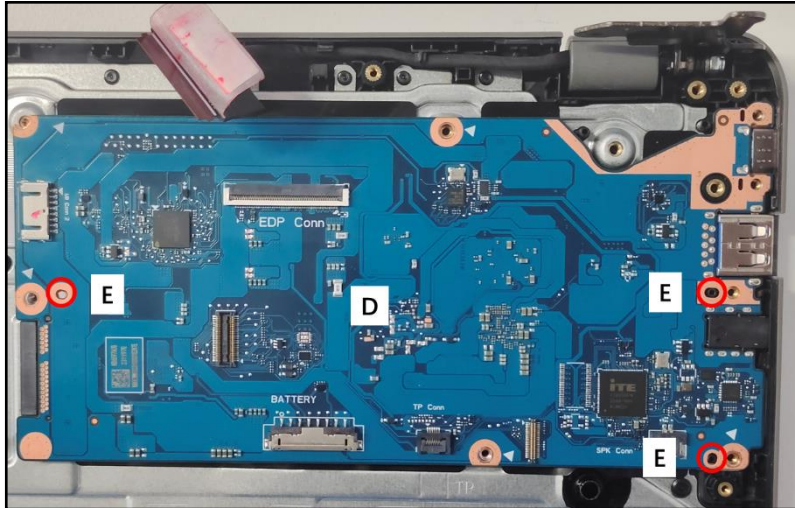

Figure 3-85. Replacing the Mainboard
3. Align and slide the I/O ports on the mainboard (D) into their slots on the top assembly (Figure 3-85).
4. Place the mainboard onto its compartment until it is fully seated and secured to the guide pins (E) (Figure 3-85).